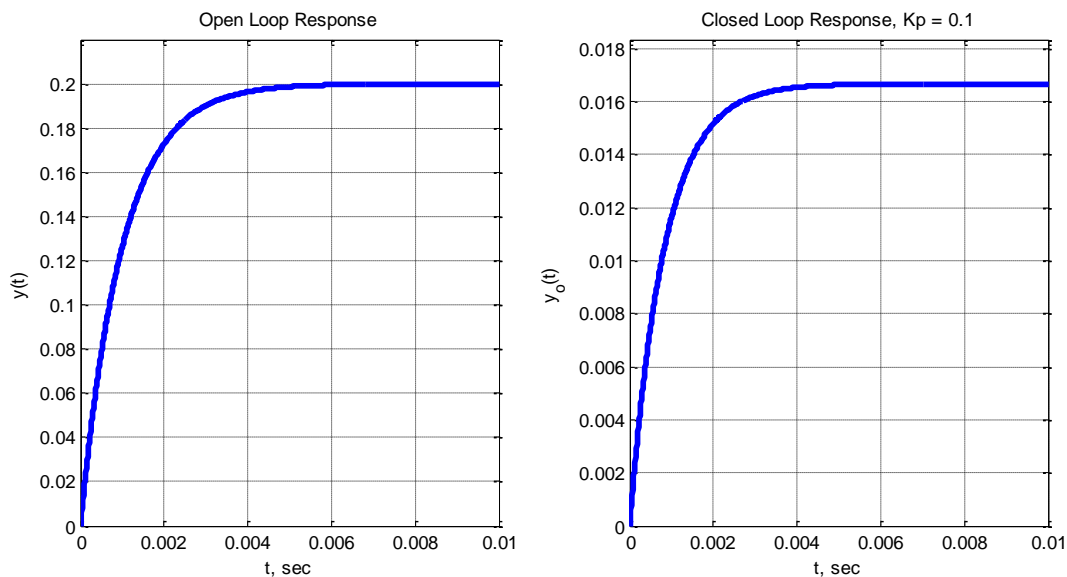

Figure 2: Open Loop and Closed Loop Response of a First Order System
15. If you now run the script, the output should look similar to Figure 2.